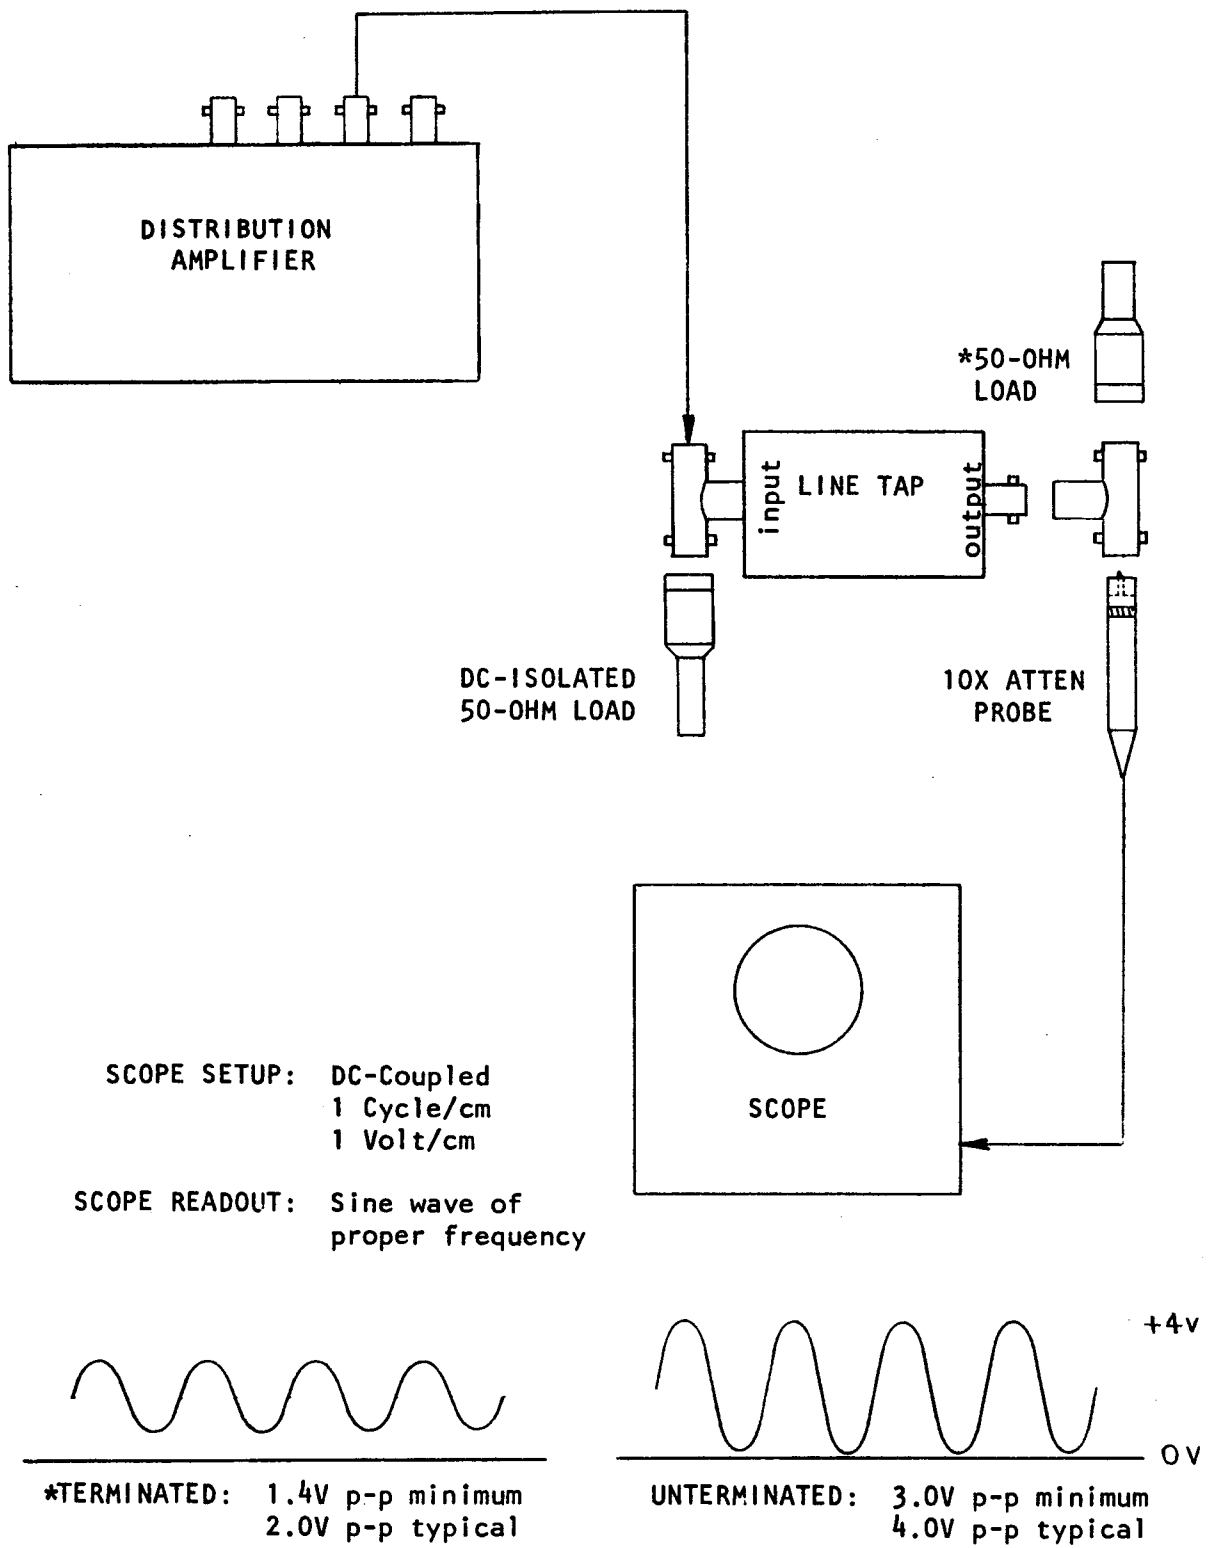

FIGURE 6-5
1. Connect a coaxial BNC tee to the output of the line tap under test. Connect the 50-ohm load to one output of the tee and connect the oscilloscope to the other tee output. Refer to Figure 6-5 for test set up.